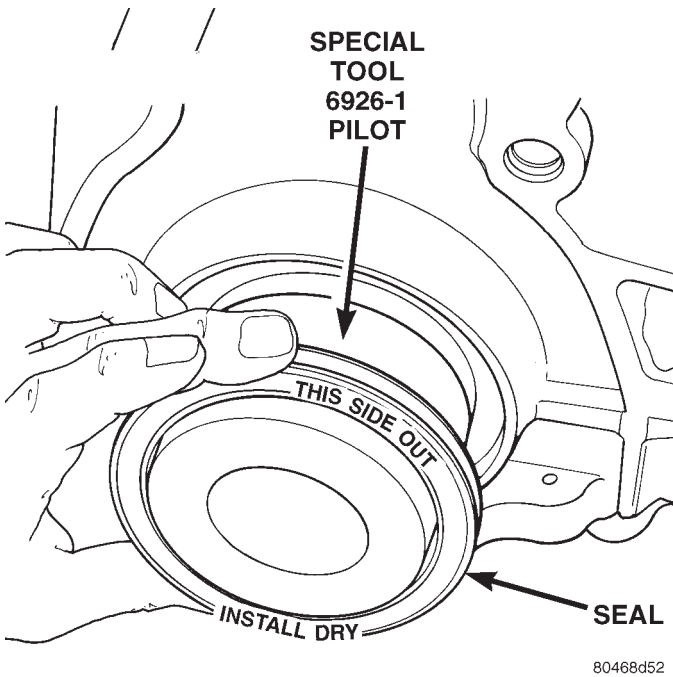

Fig. 75 Rear Crankshaft Seal and Special Tool 6926-1
(1) Place Special Tool 6926-1 on crankshaft. This is a pilot tool with a magnetic base (Fig. 75).
(2) Position seal over pilot tool. Make sure you can read the words **THIS SIDE OUT** on seal (Fig. 75). Pilot tool should remain on crankshaft during installation of seal. Ensure that the lip of the seal is facing towards the crankcase during installation.